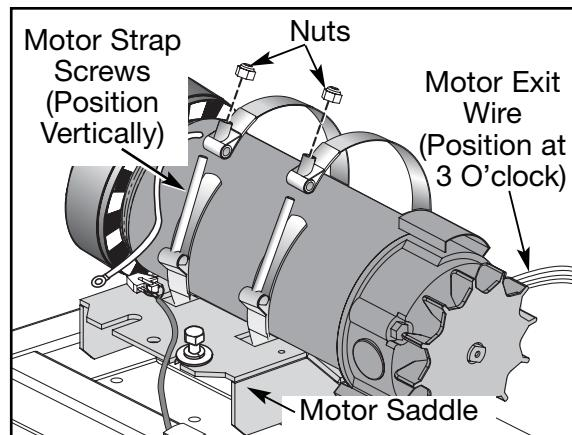

Figure 16
- B.** Turn the motor so the exit cable is positioned at a 3 o'clock angle toward the front roller. See Figure 16.
A. Loop each strap through the motor saddle and position each screw vertically as shown in Figure 16. **NOTE:** The motor strap will be creased slightly where it pressed against the motor saddle, be sure the strap is in its original position.
B. Close each motor strap and use a 7/16" wrench with a deep socket to tighten each nut securely (80 in-lbs). See Figure 16.